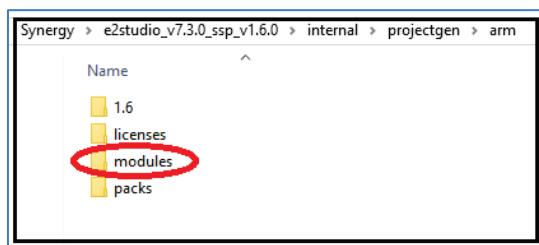

Figure 14. Modules Folder in e² studio v7.3.0 or Later
12. From e² studio v7.3.0 or SSC 7.3.1 or later versions, **module_description** folder is available only at the application level. It is the **modules** (**module_description** in versions prior to e² studio 7.3.0) directory within the SSP installation directory as shown in Figure 14.